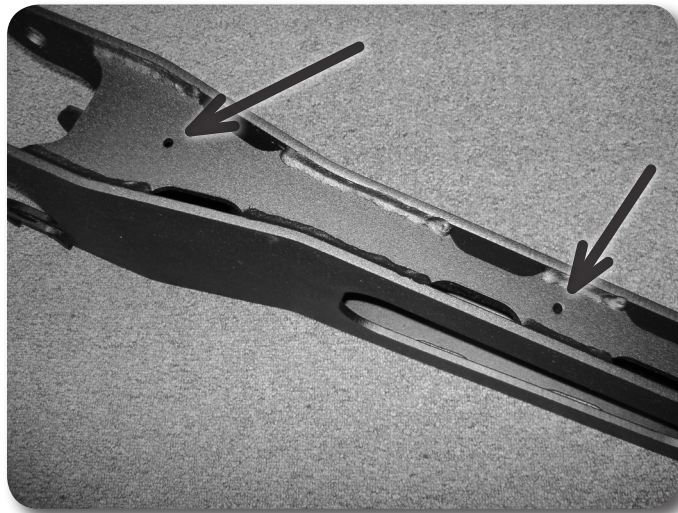

Figure 15
26. Attach the ABS wires to the new radius arms using the provided mountable zip ties installed into the small holes located in the top of the radius arms. **Figure 15** Tighten securely and cut off excess zip tie material.